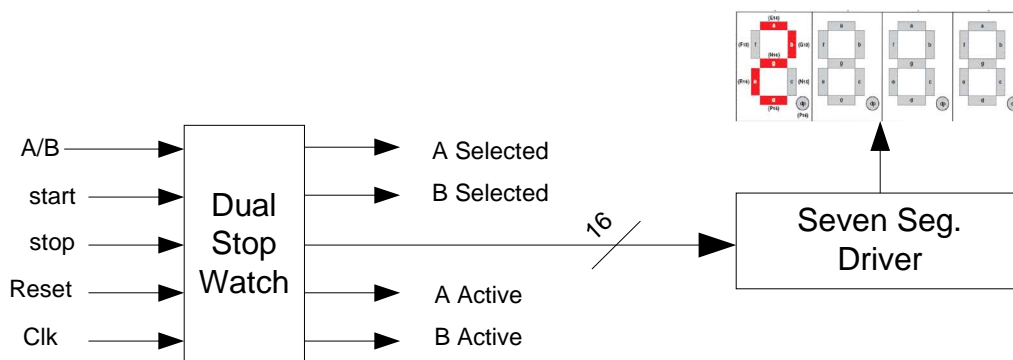
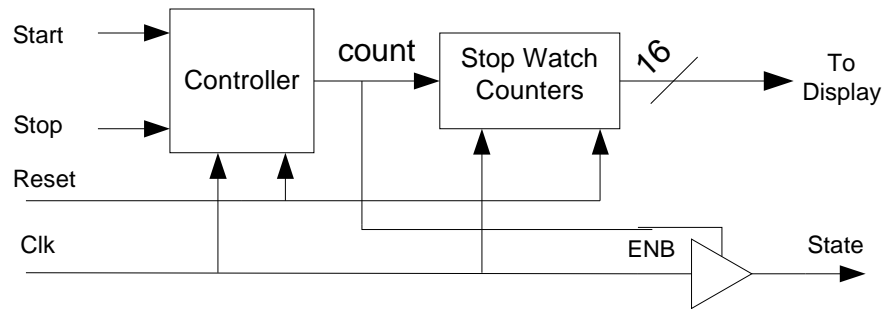

Figure 2
Figure 3
It is essential that you break down this system to smaller subsystems and start your design by implementing, and testing the small subcomponents, and at the end put the overall system together. Figure 2 breaks down this system into three subsystems (Stop watch, seven segment driver, and the seven segment displays). You have already designed the seven segment driver and display unit so you can reuse that when needed. Now let's have a closer look at the stopwatch subsystem (Figure 3). The controller unit is a simple state machine. If you consider your timer as a group of counters tied together, their counting state is either idle or counting. So in the first step you will design a counter controller.
23. Enter your design using your newly generated symbols. (Figure 3)